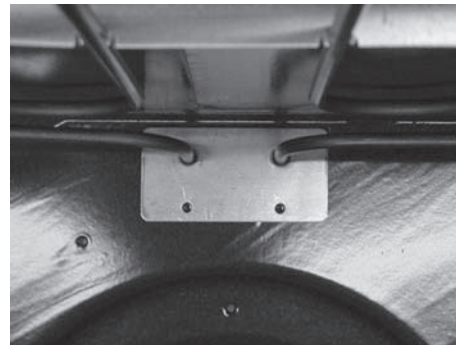

Fig. O-8
4. Remove the (2) screws holding the element from inside the oven **(Fig. O-8)**.